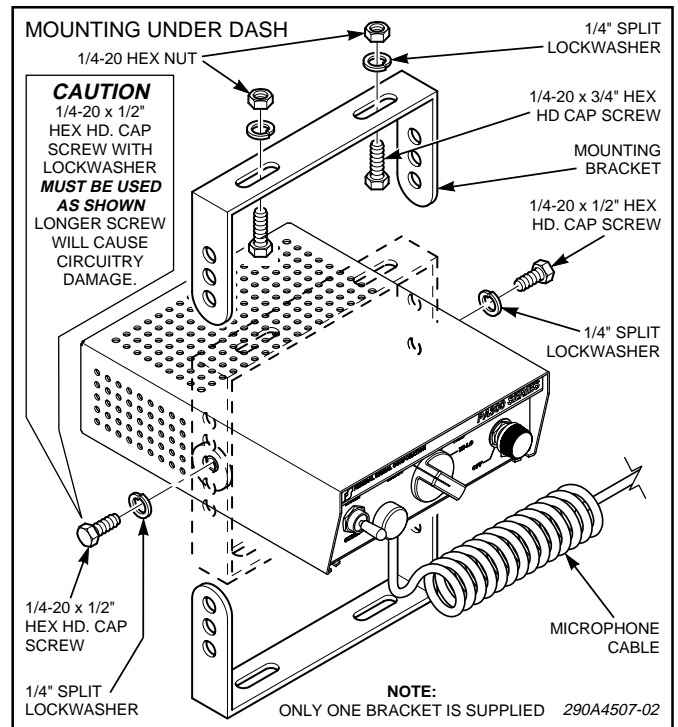

Figure 3-1. Installation of PA300 Under Dash.
To install the unit under the dash, determine the mounting location and proceed as follows (see figure 3-1).
C. Secure the mounting bracket to the dash with user-supplied 1/4-20 x 3/4 hex head screws, 1/4 split lockwashers and 1/4-20 hex nuts as shown in figure 3-1.
D. Secure the electronic siren to the mounting bracket with 1/4-20 x 1/2 hex head screws and 1/4 split lockwashers as shown in figure 3-1.
To avoid damage to the unit, the 1/4-20 x 1/2 hex head cap screws and the 1/4 split lockwashers must be used as shown in figure 3-1.